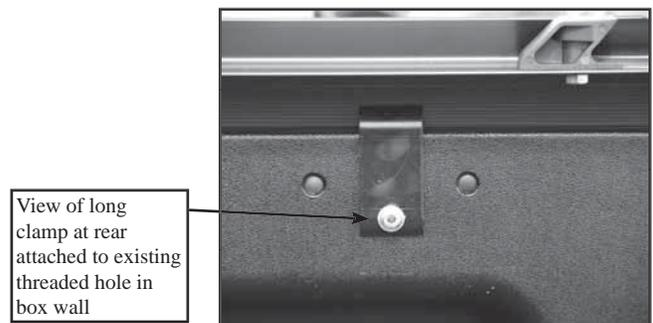

FIGURE 4
4. At rear of box, install another long clamp (SEE FIGURE 4) into existing threaded sleeve. Use a new bolt, lock washer and flat washer from kit. Tighten to 75 inch pounds. Again, check rail for level and adjust clamps up or down as needed. Repeat procedure for both side rails.